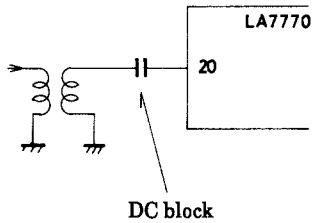

Fig. 2
- a. Since an internal bias is applied to the input pin (pin 20), be sure to provide a DC blocking capacitor as shown in Fig. 2.